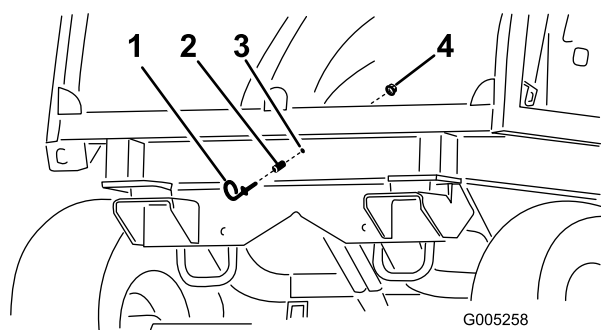

Figure 72
2. From the front of the cab, install the eyelet and spacer to the cab wall with a flange nut (Figure 72).